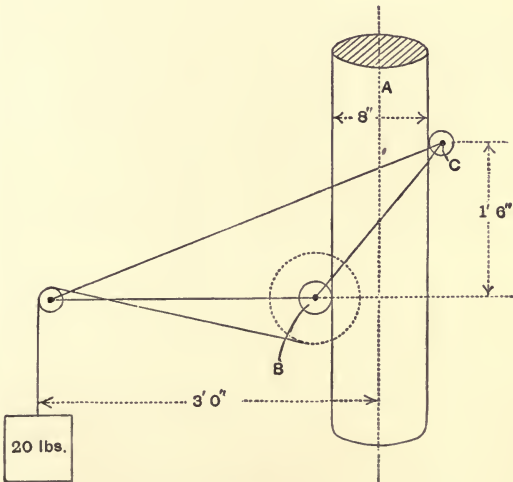

Fig. 3.
4. The weight of 20 lbs. shewn in fig. 3 is supported by the post *A* and the triangular framework which carries freely turning rollers at *B* and *C*. The mass of the frame and rollers is 5 lbs., the moment of inertia of the roller *B* about its axis of rotation is 2 lbs. inch2; the small and large radii of *B* are  $1\frac{1}{2}$  inches and 4 inches respectively, and the mass of the roller *C* is negligible. Determine the acceleration with which the frame climbs the post assuming that the roller *B* does not slip.